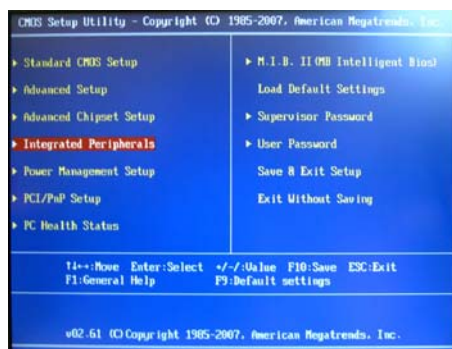

Figure 1.1 BIOS CMOS Setup Utility Main Screen
- 2 Use the arrow keys to select Integrated Peripherals (see Figure 1.1), then press Enter.